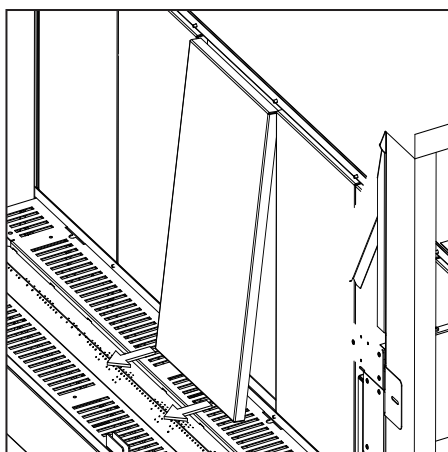

Figure 23: Rear Liner Removal
2. Remove the rear Liners from the unit (Figure 23).